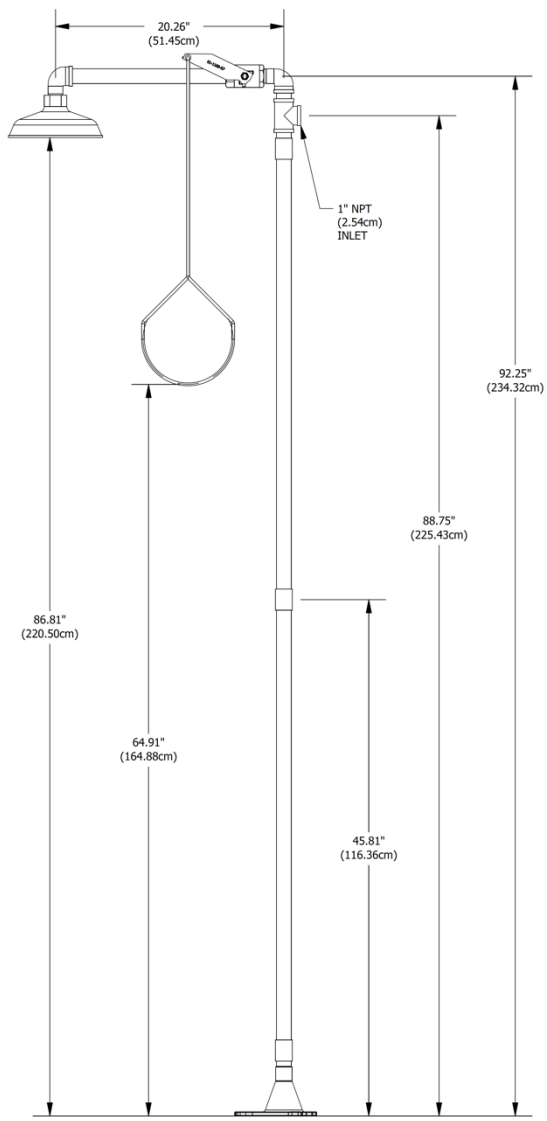

FIGURE 3
9. See **Figure 3** for final mounting recommended measurement.